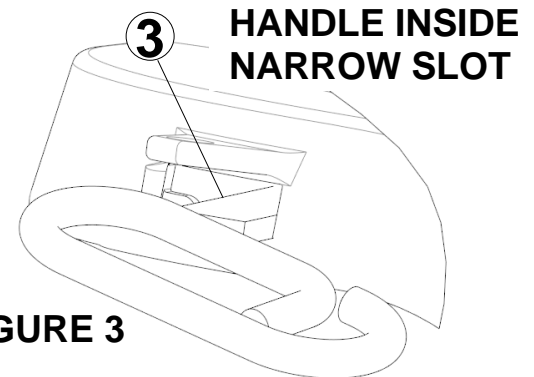

FIGURE 3
- c. Check that the release HANDLE is INSIDE the NARROW SLOT (see figure 3).